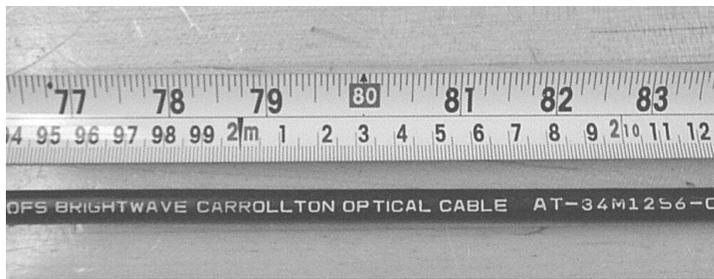

Figure 23 - Measure and mark the mid-span sheath opening
5.9 Consult the splice closure instructions to determine the length of outer cable jacket that must be removed for the mid-span splice. Center the sheath opening at the reversal point. Measure equal distances from the reversal point and mark the sheath opening (Figure 23).